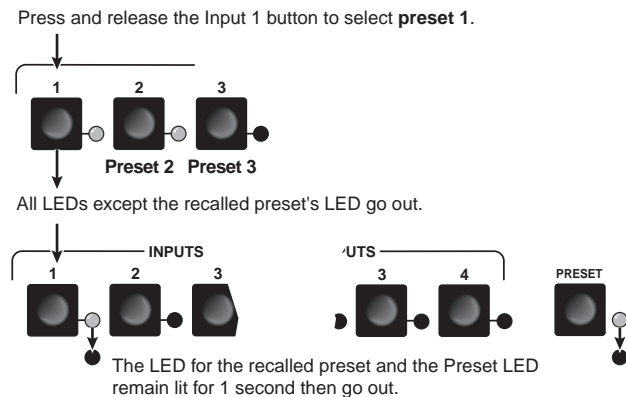

Figure 3-30 — Select the preset, MAV 48
2. Press and release the Input 1 button (figure 3-30).